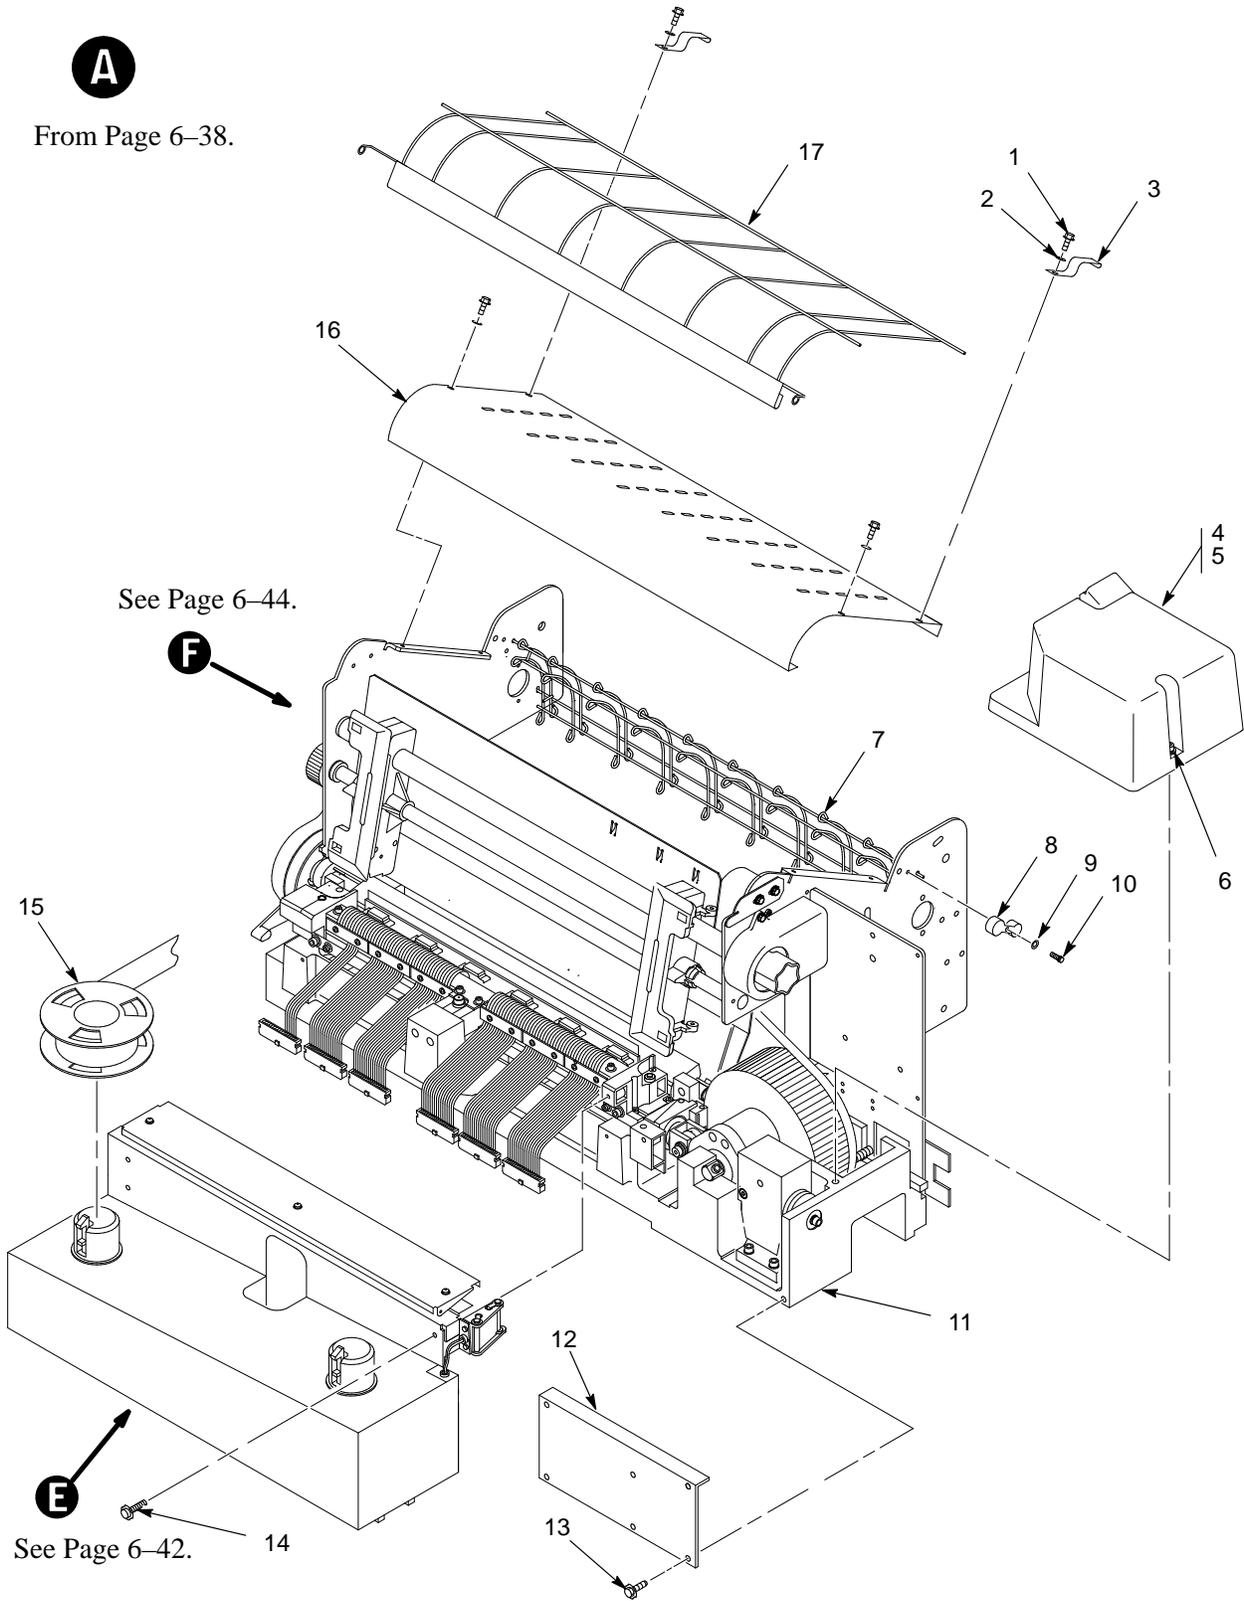
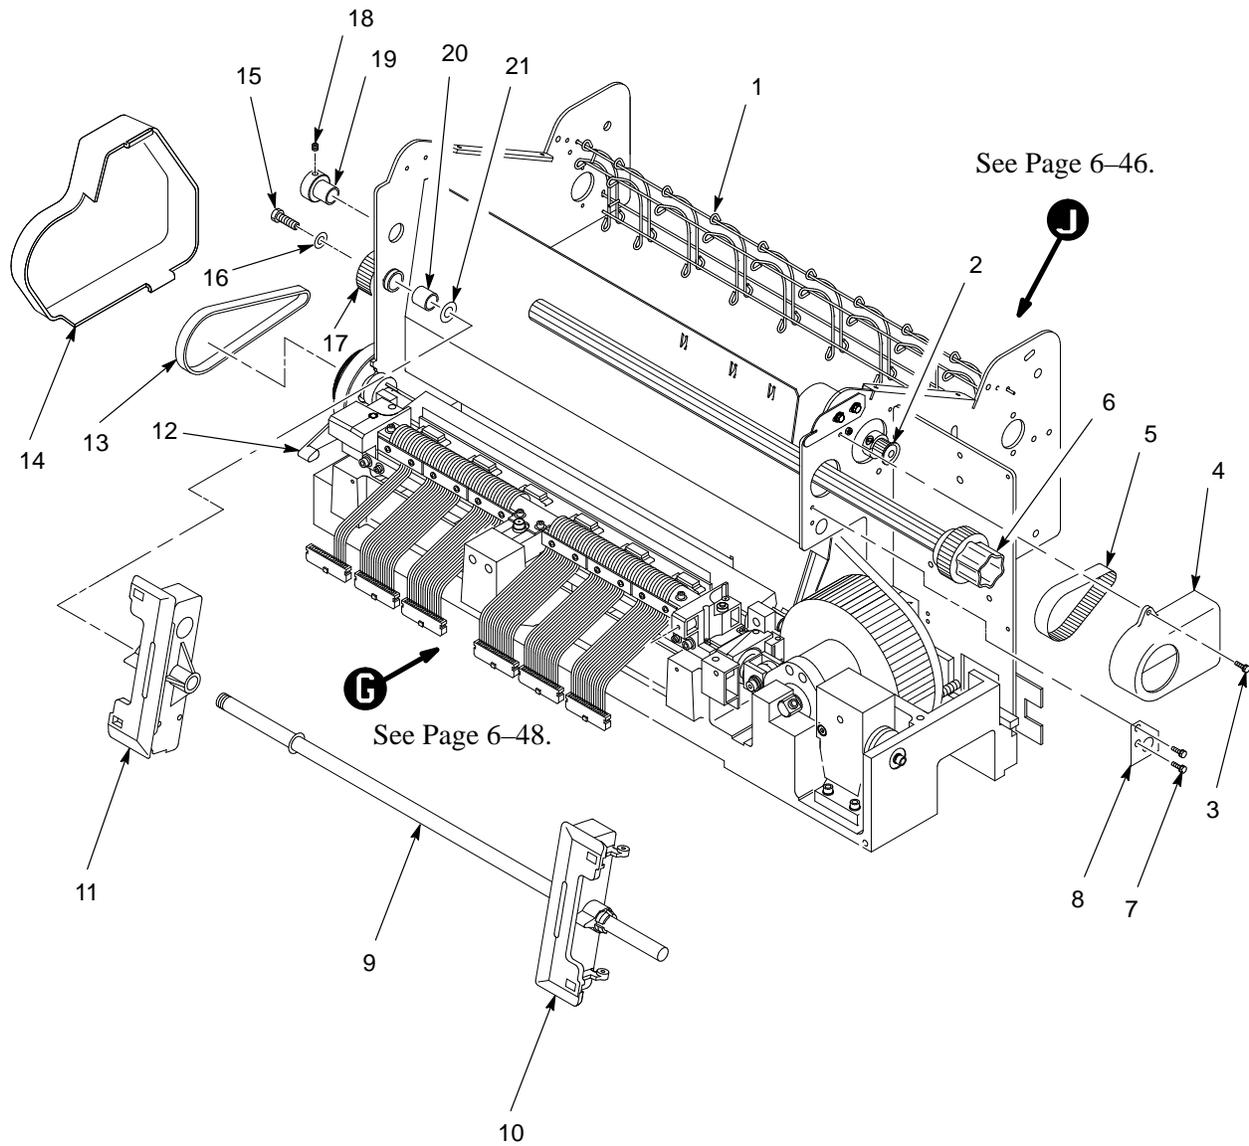

Figure 6-7. Print Mechanism
Figure 6-9. Tractor Shafts
3. Remove the lower paper guide (Figure 6-7, page 6-40, item #16), four (4) 1/4" screws. This will allow access to the platen open switch nutplate.
5. Remove the two (2) allen screws while holding the mating nutplate. Take care so as not to drop the two spacers behind the switch.
3. Remove the lower paper guide (Figure 6-7, page 6-40, item #16), this will allow access to the shuttle motor.
4. Remove the cam cover (Figure 6-7, page 6-40, item #4), and the paper feed belt guard (Figure 6-9, page 6-44, item #4).
5. Remove the shuttle motor belt guard by removing one (1) bottom 5/16" screw, and one (1) 5/16" nut/bolt pair from the top, being careful not to drop the nut into the printer. This cover fits tightly, and will need to be flexed for removal.
6. Remove the shuttle motor power and signal cables from their mate-n-lock connectors, and the four (4) shuttle motor mounting nuts, (7/16) to free the motor from its mounting plate.